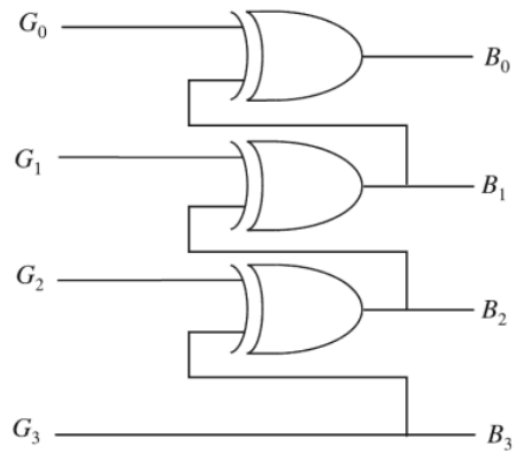

Figure 3.1
- The truth table for gray to binary code converter is given in Table 3.1. Use Karnaugh maps to get simplified expressions for each binary bit as a function of gray code bits. **Verify the circuit given in Fig. 3.1 with your Boolean expressions.**
- Simulate the circuit given in Fig. 3.1 using OrCAD PSpice and add the simulation results to the report. **(Pay attention to the simulation notes given in the first experiment)**
- Simulate the circuit given in Fig. 3.1 using TinkerCAD and add the simulation results to the report. **(Pay attention to the simulation notes given in the first experiment)**
- i. Implement the circuit given in Fig. 3.1 on your breadboard. Connect the inputs to switches and outputs to LEDs. Make sure that all ICs have proper power and ground connections.